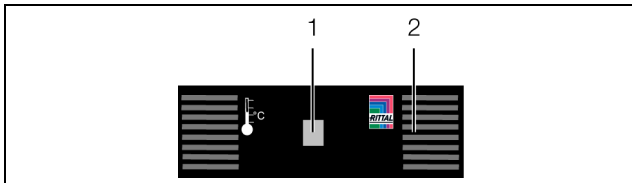
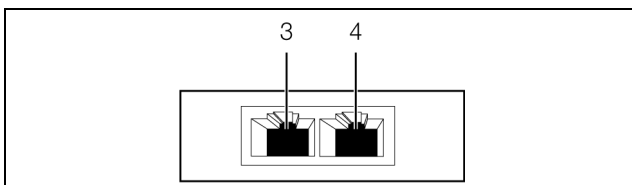

Fig. 9: Front of the temperature sensor
Fig. 10: Rear of the temperature sensor
A multi-LED for the status display is integrated into the front of the temperature sensor (fig. 9, item 2). Further LEDs are located at the rear on the CAN bus connection (fig. 10, item 3 and item 4).